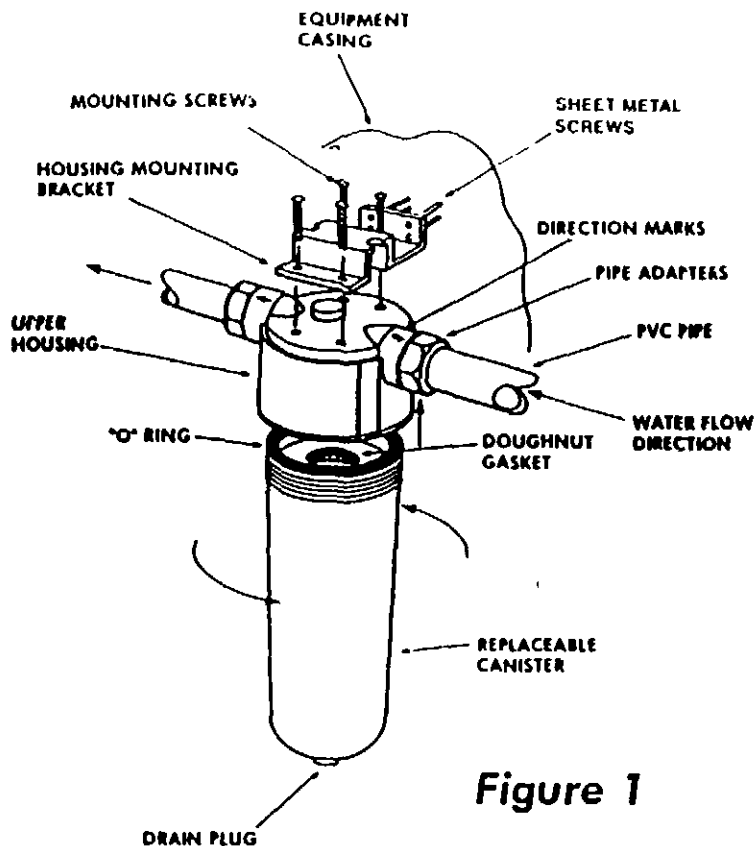
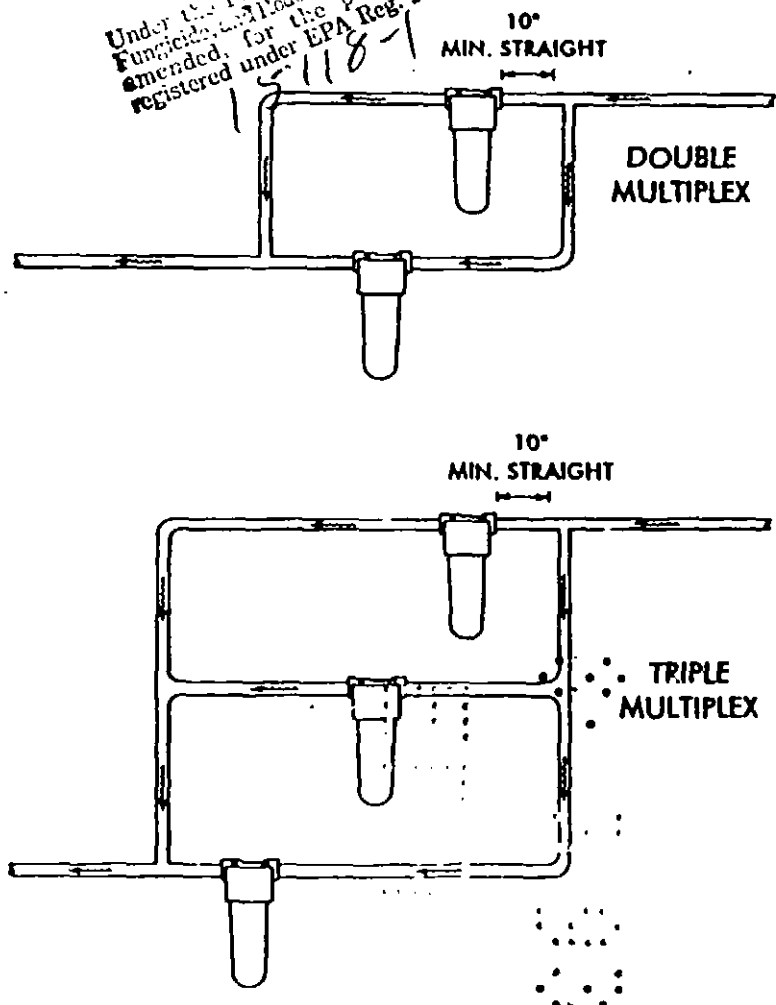

Figure 1
Figure 3
6. Drill four one-quarter inch holes in the evaporative cooling equipment casing using the mounting brackets as templates. Attach mounting brackets with sheet metal screws provided (Figure 1). If more than one IOBIO™ Control is required, locate the additional devices as close as possible to one another. Multiple devices are to be piped in parallel with piping arranged to provide equal flow resistance through each device (Figure 3).